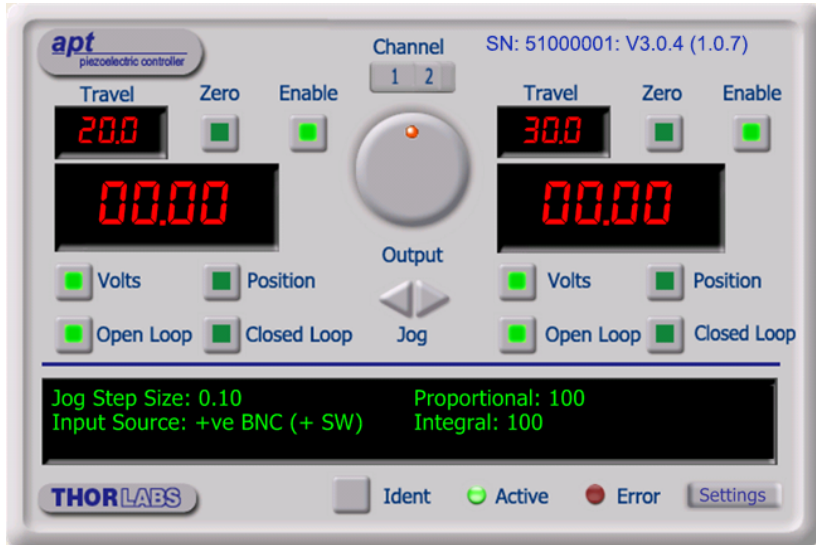

Fig. 5.1 MPZ601 GYUI Panel
- 1) Run the APT User program - Start/All Programs/Thorlabs/APT User/APT User. The APT server registers automatically the units connected on the USB bus and displays the associated GUI panels as shown in Fig. 5.1..